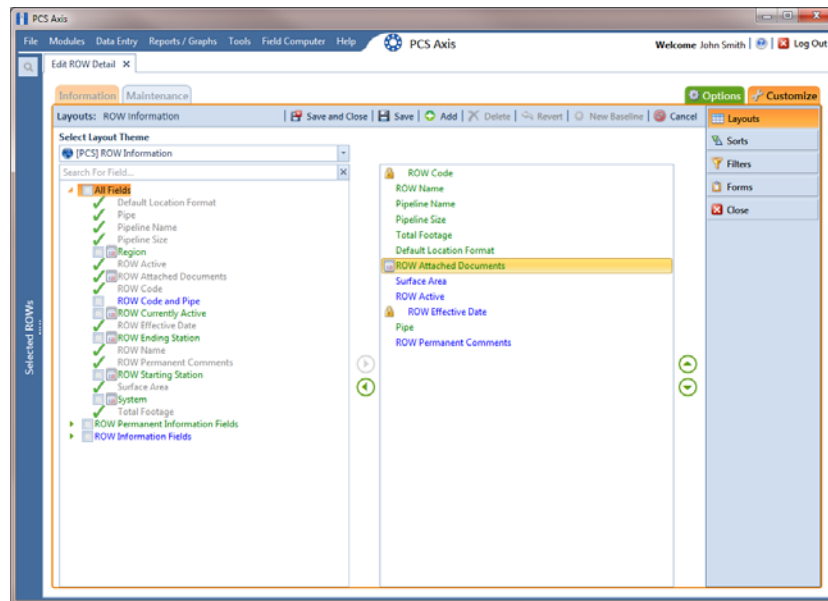

Figure 4-24. Layouts
- 5 Click the **Customize** tab  to view the *Layouts* page (Figure 4-24, page 123).
- 8 Add the field *ROW Attached Documents* in the layout theme. Double-click **ROW Attached Documents** in the left pane of the *Layouts* page to move it to the right pane. Add other fields as required. The layout theme includes all fields listed in the right pane (Figure 4-24).